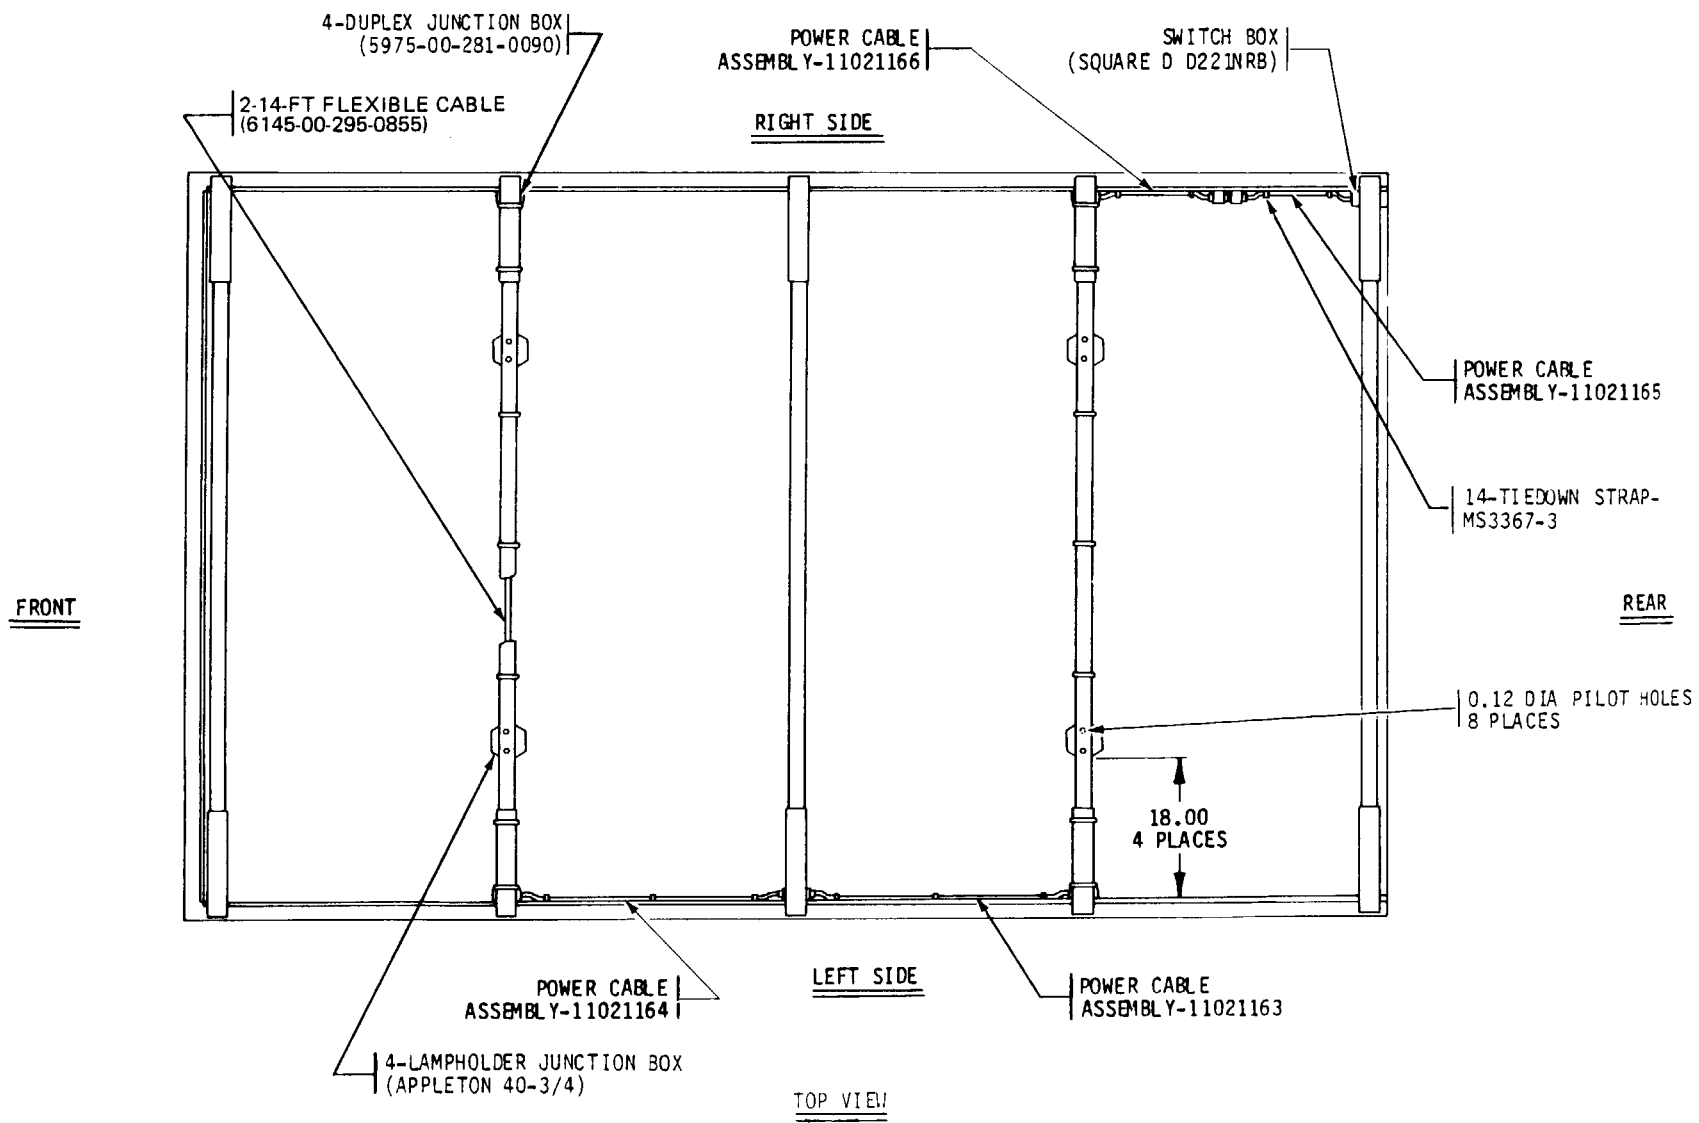
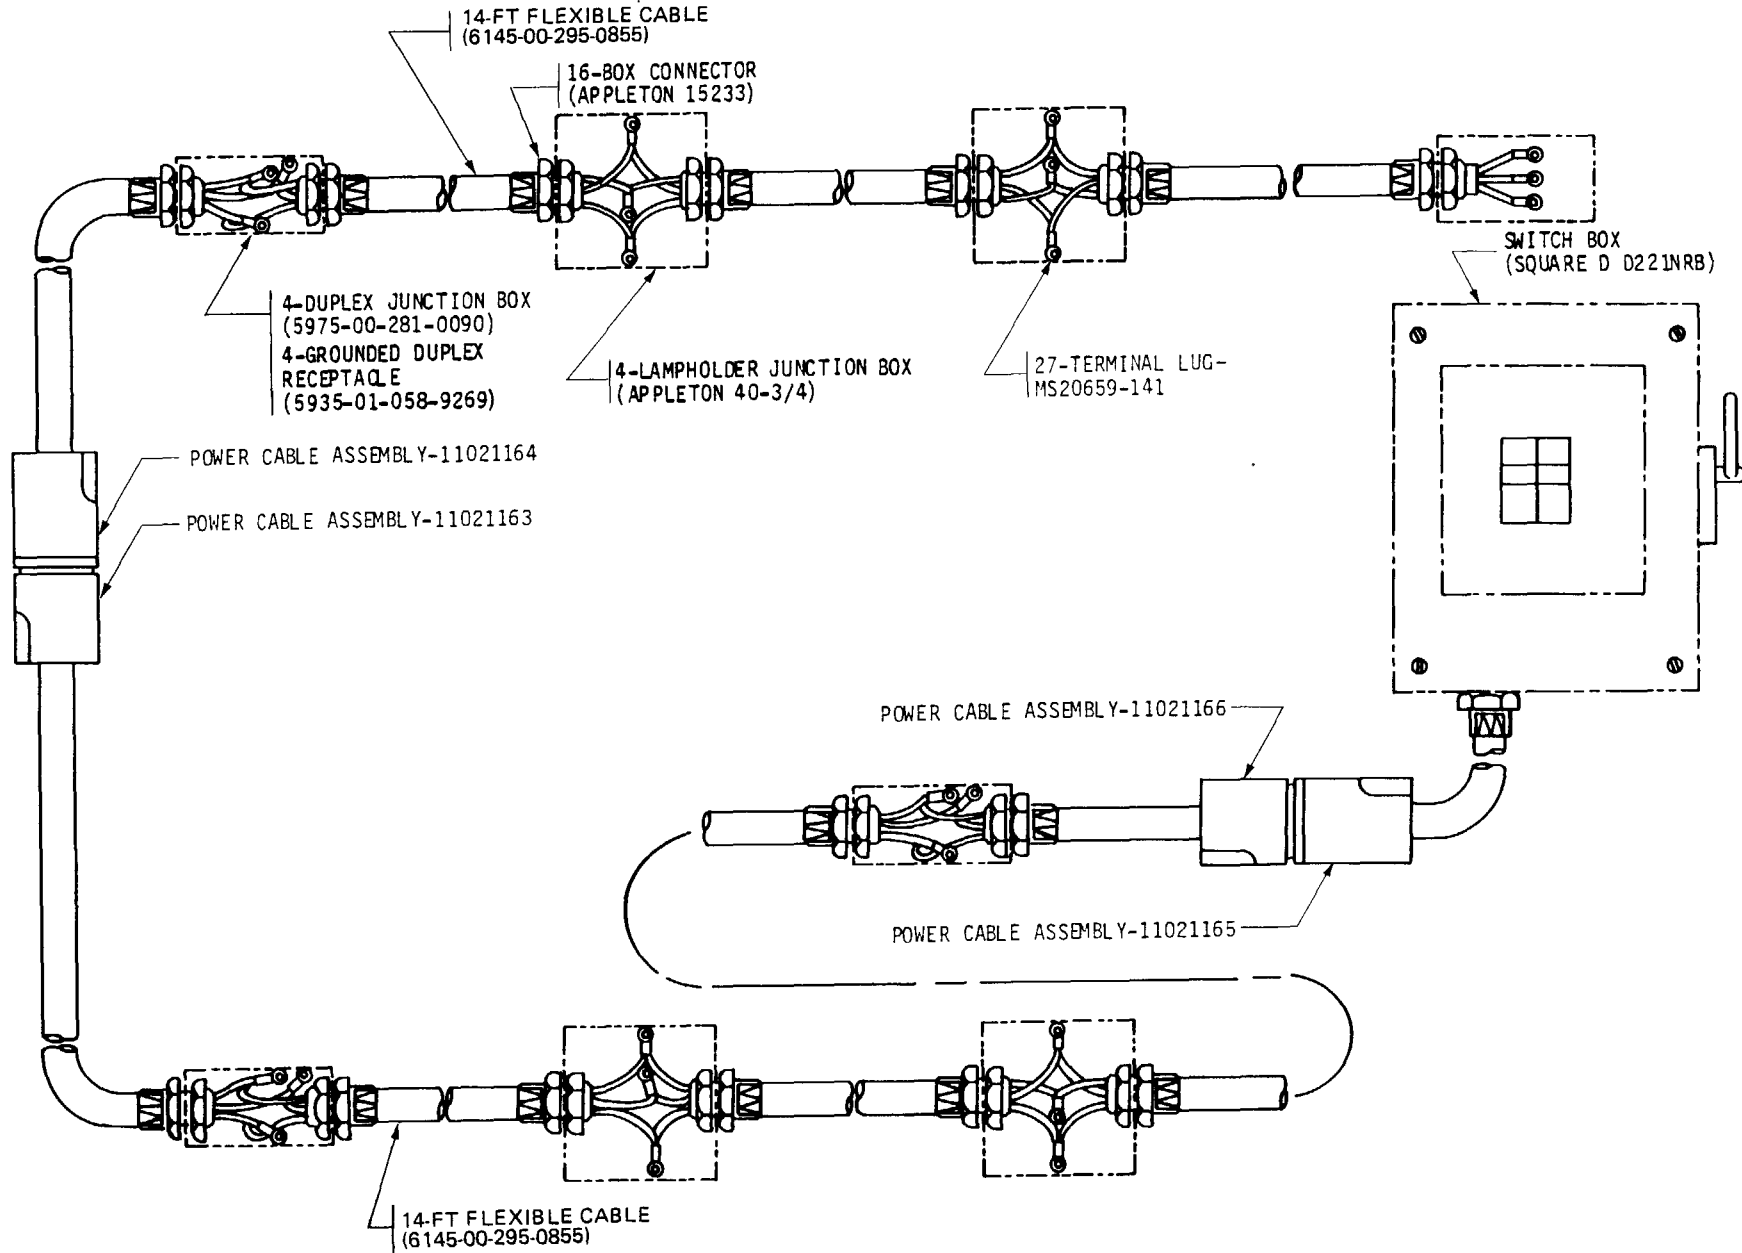
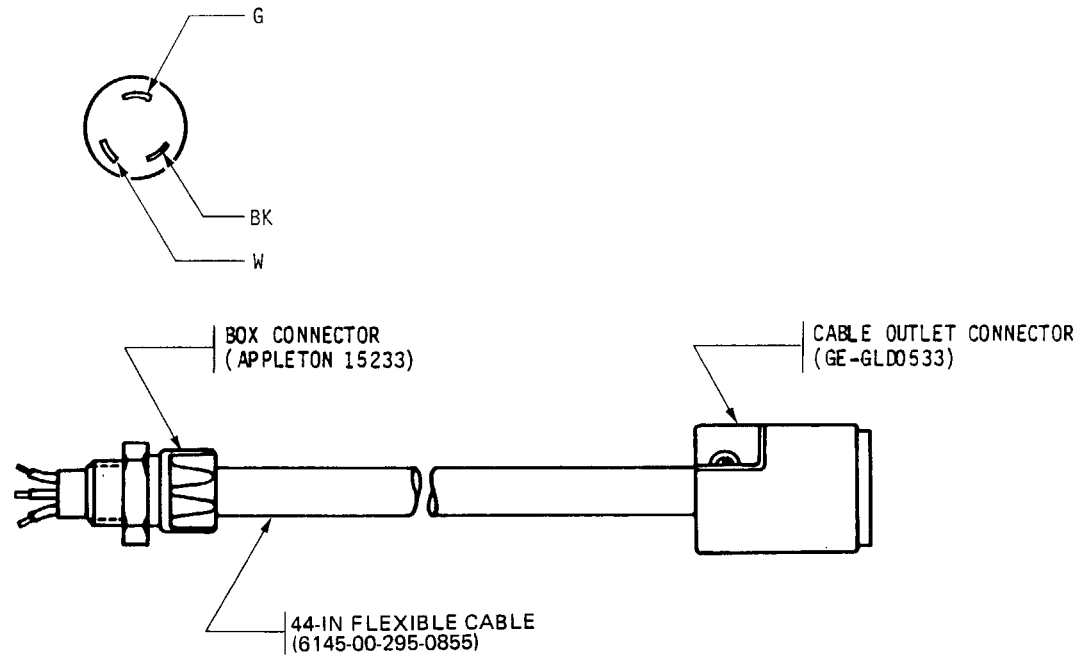

Figure 6. Electrical Components to be Mounted, M35A2, Top View.
Figure 9. Electrical Schematic, M35A2.
Figure 10. Power Cable Assembly, 11021163, M35A2.
(5) Position four lampholder junction boxes (Appleton 40-3/4) on inner side of second and fourth bows as shown in figure 6. Mark and drill eight 0.12-in. diameter pilot holes and secure lampholder junction boxes to bows with eight #10 x 1-in. thread forming screws (MS51861-49).
each duplex junction box in line with bows. Install twelve box connectors (Appleton 15233) in the junction boxes and install jam nuts on box connectors in accordance with figure 9.
(8) Fabricate four power cable assemblies (11021163, 11021164, 11021165, and 11021166) using approximately 14 feet of flexible cable (6145-00-295-0855). Install four box connectors (Appleton 15233). Refer to figures 10 thru 13 for individual power cable assembly construction, and install in accordance with figures 6 thru 9.
(9) Install 28 feet of flexible cable (6145-00-295-0855) through duplex junction boxes and lampholder junction boxes on second and fourth bows. Refer to figures 6 thru 8. Strip a 3-in. length of outside insulation from flexible cable on inside of each junction box. Strip 1 inch of insulation from each individual wire and twist wire to fit terminal lugs (MS20659-141). Install and crimp terminal lugs in place in accordance with figure 9.
(10) Connect three wires to lampholder (GE-5740-7) and secure to lampholder junction box (Appleton 40-3/4) with screws provided with lampholder junction box. Repeat this step for remaining three lampholder junction boxes. Refer to figures 6 thru 9.
(11) Install four grounded duplex receptacles (5935-01-058-9269) after stripping 3 inches of outside insulation from flexible cable. Refer to figure 9. Strip 1 inch of insulation from each individual wire and twist wires to fit terminal lugs (MS20659-141). Install terminal lugs and crimp. Connect wires to grounded duplex receptacles, and secure grounded duplex receptacles to duplex junction boxes with screws provided with grounded duplex receptacles in accordance with figures 6 thru 9.
cords in junction boxes and switch box. Refer to figures 6 thru 9.
(14) Secure power cable assemblies to bows and truck rack with twenty-eight tiedown straps (MS3367-3) in accordance with figures 6 thru 8.